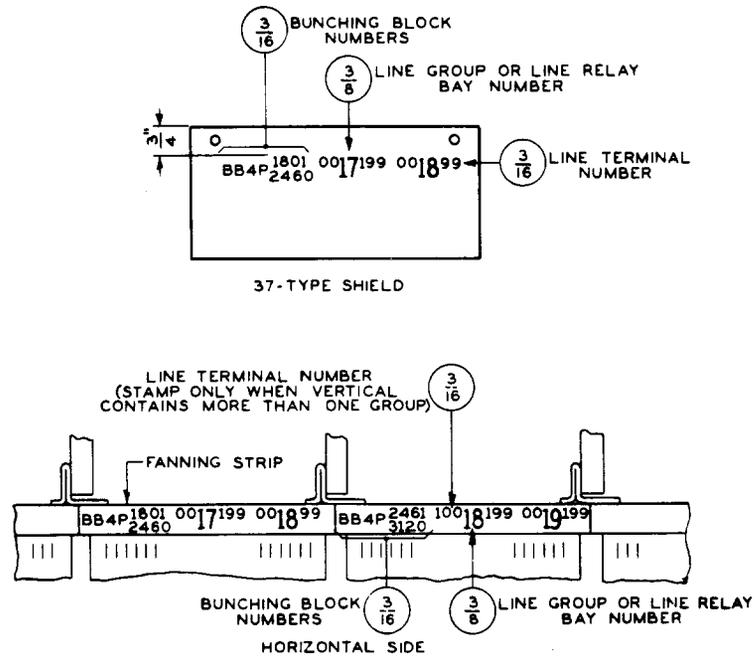

Fig. 29 – Designations Applying to Equipment on Opposite Vertical — Panel and Step-by-Step IDF
occurs on more than one vertical, also stamp the first and last circuit numbers of each group. For each vertical having party line bunching blocks, stamp BB 4P or BB 10P also, as required, with the first and last circuit numbers thereof on the respective verticals. (See Fig. 29.)
- (b) **Step by Step:** Stamp the designation of the line group (G1, G2, etc) on the terminal strip located immediately to the right of each vertical on which the line group appears. For each vertical having party line bunching blocks, stamp BB 4P, BB 8P, or BB 10P also, as required, with the first and last circuit numbers thereof. (See Fig. 29.)
2.41 *Shields:* When 37- or similar-type shields are used on horizontally mounted terminal strips, designations required on the edge of the fanning strip shall be duplicated on the shield. (See Fig. 29.)